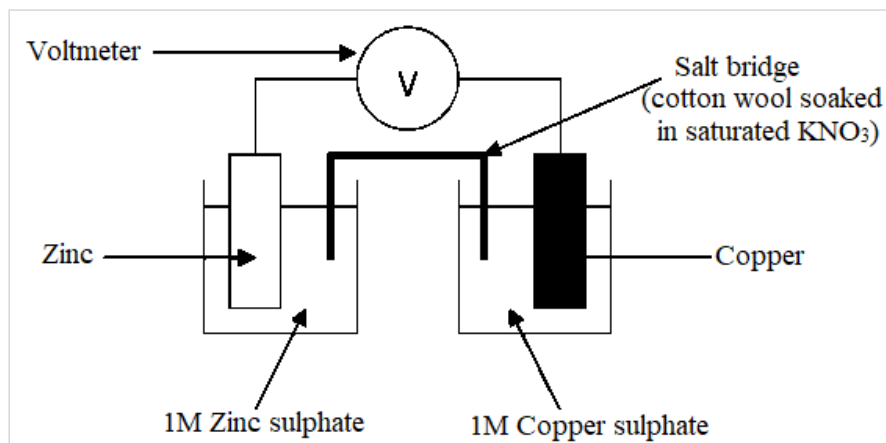

Figure 12.1: Working principle of Cu-Zn electrochemical cell
1. Set up the apparatus as displayed in figure 12.1.